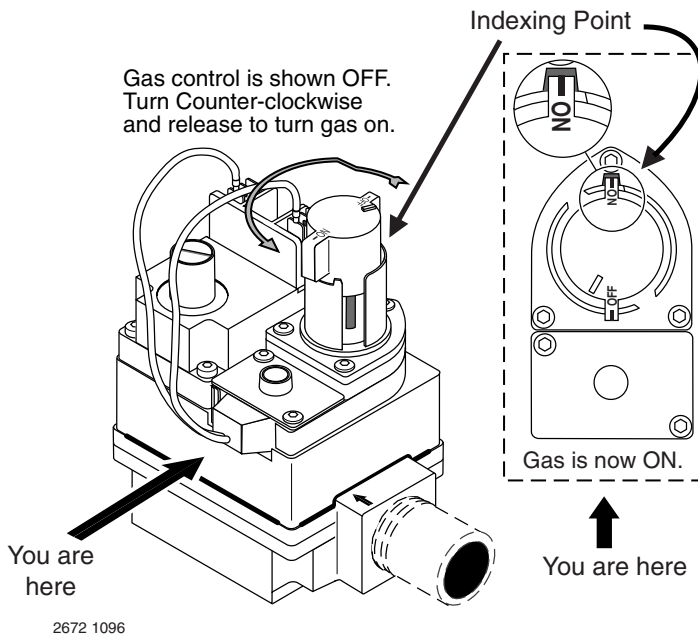

FIGURE 5: Turning Gas Control ON
- Wait five (5) minutes to clear out any gas. If you then smell gas, STOP! Follow "B" in the "Before Startup" instructions (Page 4). If you don't smell gas, go to the next step.
- Turn the knob on the gas control counter-clockwise (↺) to the "ON" position. See Figure 5.